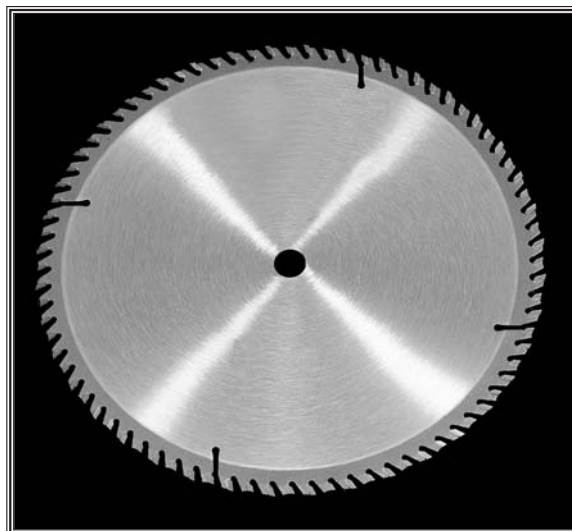

Figure 48. Plywood blade.
- **Figure 48** shows an example of a plywood blade. Plywood blades have a large number of teeth, have a thin kerf and create exceptionally smooth cuts. As the name implies, these types of blades are excellent for fine plywood and also for cutting bevels, rabbets or compound miters. The drawback to this type of blade is the great amount of heat produced from the many teeth. These blades should not be used for heavy ripping or cutting thick stock.